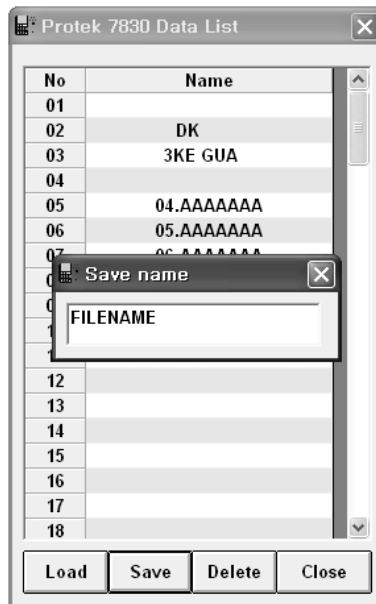

Figure 4.11. Input the name of “Save File”
- 2) Display main menu → Select level, as following figure 4.11 operate level value display window.